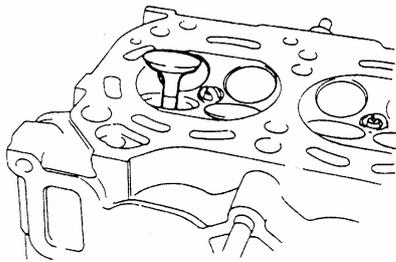

Fig. 4-120
1) Install valve spring gasket as shown in Fig. 4-120.